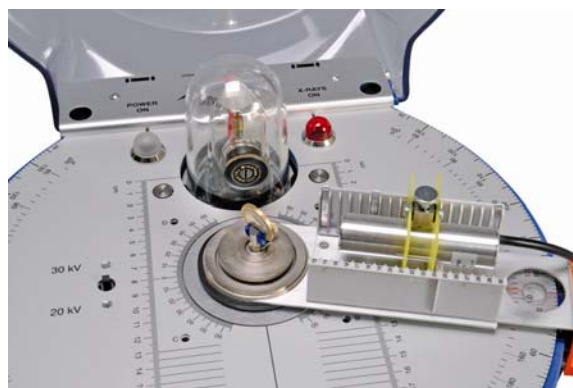

Fig. 2 Inserting the X-ray energy detector into the goniometer arm of the X-ray apparatus (U192001)
- Insert the X-ray energy detector into the magazine of the goniometer arm at the desired distance (see Fig. 2).